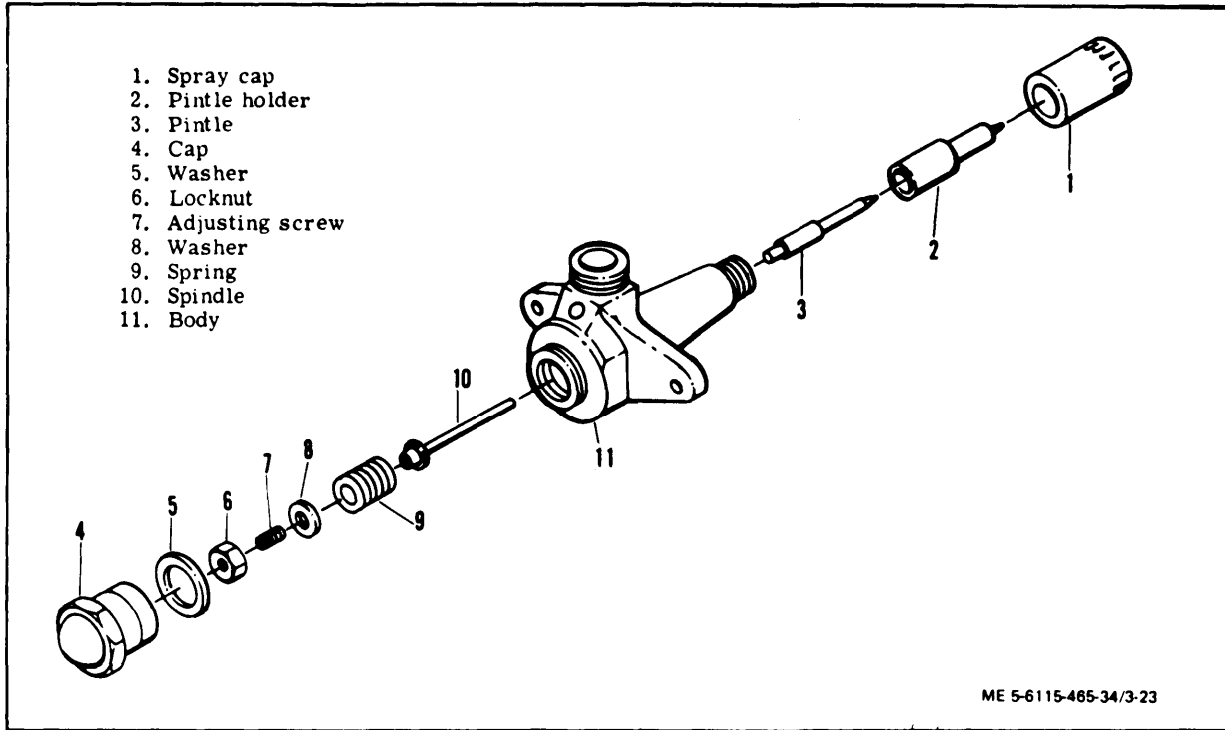

Figure 3-23. Fuel Injection Nozzle Holder, Exploded View
(1) Unscrew spray cap (1, figure 3-23) and remove pintle holder (2) and pintle (3).
(2) Remove cap (4) and washer (5).
(3) Remove lock nut (6), adjusting screw (7), and washer (8) to remove spring (9) and spindle (10) from body (11).
(1) Install spindle (10, figure 3-23) and spring (9) into body (11).
(2) Install washer (8), adjusting screw (7) and locknut (6).
(3) Insert pintle (3) into pintle holder (2).
(4) Position pintle holder in body and secure with spray cap (1).
(5) Do not install washer (5) and cap (4) until after adjustment.
(1) Install repaired nozzle holder on a standard static fuel nozzle testing fixture.
(2) Tighten adjusting screw all the way down.
(3) Apply fuel at 2500-2950 psig and slowly loosen adjusting screw until nozzle begins to open.
(4) Tighten locknut while holding adjusting screw with screwdriver.
(5) Lower fuel pressure. Nozzle holder assembly shall close.
(6) Slowly increase fuel pressure. Nozzle holder shall open at 2500-2950 psig.
(7) Observe fuel spray. Fuel spray shall be even and smooth. Spray cone shall be same thickness at a distance of 5 inches. There shall be no signs of leakage.
(8) Remove fuel pressure and remove nozzle holder from testing fixture.
(9) Install washer (5, figure 3-23) and cap (4).